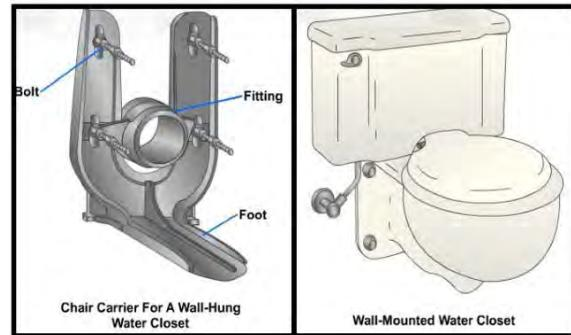

Figure 4 – Wall-mounted water closet.
7. A wall-mounted water closet is attached to the wall by a chair carrier, similar to the one shown in *Figure 4*. The chair carrier is positioned and bolted to the floor. A standard fitting is used to connect between the drain and the closet bowl after the chair carrier is bolted down. The fittings are for 4-inch iron or soil pipe. The bolt holes in the chair carrier are slotted to facilitate installation of the closet bowl.